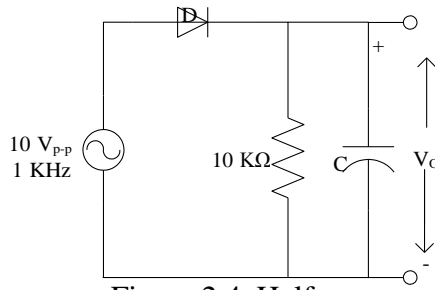
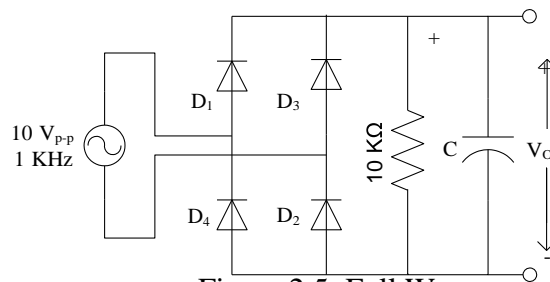

Figure 2.4: Half wave
Figure 2.5: Full Wave
1. First, connect the circuit in breadboard as shown in figure 2.4 without any capacitor.
7. Repeat steps 1-6 for Figure 2.5.
Half Wave Rectifier (Fig 2.4)	Full wave Rectifier (Fig 2.5)
a) Input-output without capacitor (fig 2.4)
d) Input-output without capacitor (fig 2.5)
b) Input-output with 0.22uF (fig 2.4)
e) Input-output with 0.22uF (fig 2.5)
c) Input-output with $10\mu\text{F}$ (fig 2.4)
f) Input-output with $10\mu\text{F}$ (fig 2.5)
1. For Fig 2.4 and Fig 2.5, draw the input-output wave-shape without capacitor, with $0.22\mu\text{F}$ capacitor and $10\mu\text{F}$ capacitor.